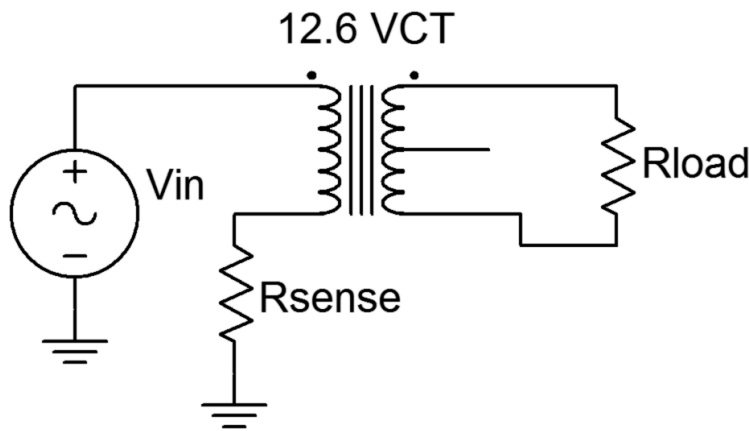

Figure 2
3. Build the circuit of Figure 2 using $R_{sense} = 22\ \Omega$, $R_{load} = 10\ \Omega$ and $V_{in} = 5$ volt peak sine at 60 Hz. Place one scope probe across the load and the other across R_{sense} . Record the peak amplitudes in Table 2 and capture an image of the scope display.